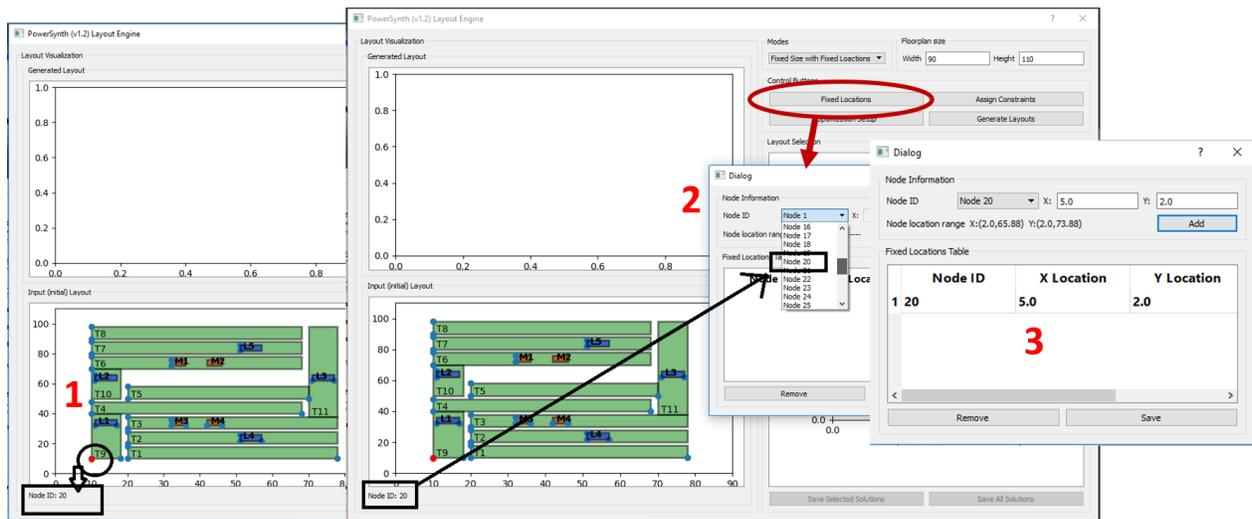

Figure 5: Fixed Location Setup
- **Fixed Size with Fixed Locations:** In this mode, “**Width**”, “**Height**” must be given. Besides, one additional requirement is the “**Fixed Locations**”. This button is used for allocating fixed coordinates to the desired nodes. On this mode, the input layout is updated with clickable dots on possible nodes of the layout as shown in Fig. 5 with marked as "1". To fix a node at certain coordinate, user needs to click on the node and the "**Node ID**" will appear at the bottom. Then, “**Fixed Locations**” button needs to be clicked to find the desired "Node ID". Upon selecting the "Node ID" from the drop down list, the valid x and y coordinate range will appear for that node. User needs to choose a value within the range and then "**Add**" button needs to be clicked to store the location. In the similar way, as much nodes as user want can
provide fixed location and then "Save" button needs to be clicked to apply the location values to the generated layout. A flow is shown in Fig. 5